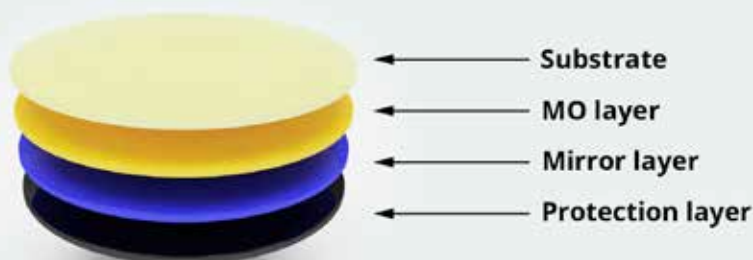

Figure 1: MO sensor configuration showing the four functional layers.
Magneto-optical (MO) sensors are a new and innovative tool for observing the structure of magnetic information in magnetic materials. They can visualize two dimensional profiles of magnetic fields with nearly optical resolution using the Faraday Effect in real time thus allowing to analyze fields by a magneto-optical image. The sensor works in direct contact to the magnetic material. The MO sensor is made up of four layers: substrate, magneto-optical film, mirror and protection layer (Figure 1). The thin mirror layer is been upset on the MO layer to enable a light reflection during the application.